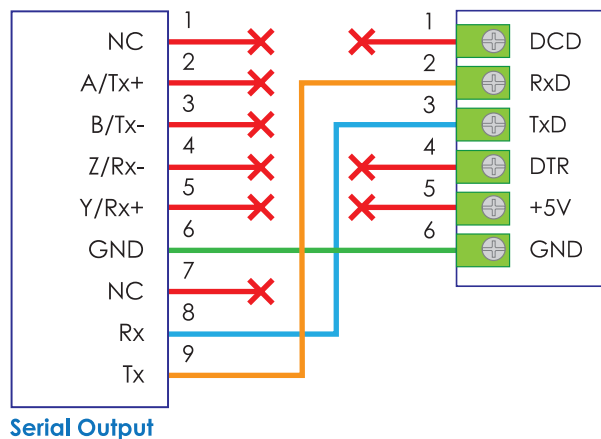

Figure 11. The connection pinout of RS232 Serial Output with Serial converter in RS232 mode
6. The connection wiring pinout of the control box RS232 serial output is illustrated in Figure 11.